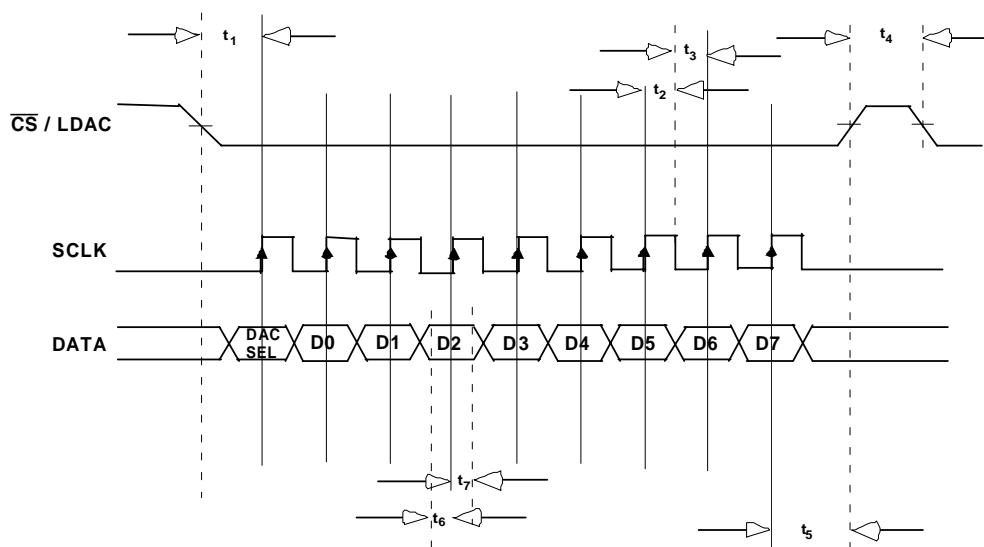

Figure 4. Serial Interface Waveforms
2. See Timing Diagram in Figure 4.
This function is also shown in the waveforms in Figure 4 below. A falling edge on the CS/LDAC input initiates the data read into the shift register. The first bit of the datastream is the DAC Select Bit (DAC\_SEL) which determines which internal DAC the data will be written to. A '1' selects DAC 1 which sets the Amplitude of the output and a '0' selects DAC 2 which sets the Centre Voltage of the output. The individual data bits are then read in one by one on the DATA line. After the DAC\_SEL bit and the 8 data bits have been read there is a pause to ensure the shift register outputs are stable. Then a rising edge on the CS/LDAC input loads the 8 bits on the shift register outputs into the relevant DAC (and the DAC outputs will change accordingly). Note that if CS/LDAC goes high before all 8 data bits are read in then incorrect data will be loaded into the DACs. All bits on the DATA line are read in on each rising edge of the SCLK signal.